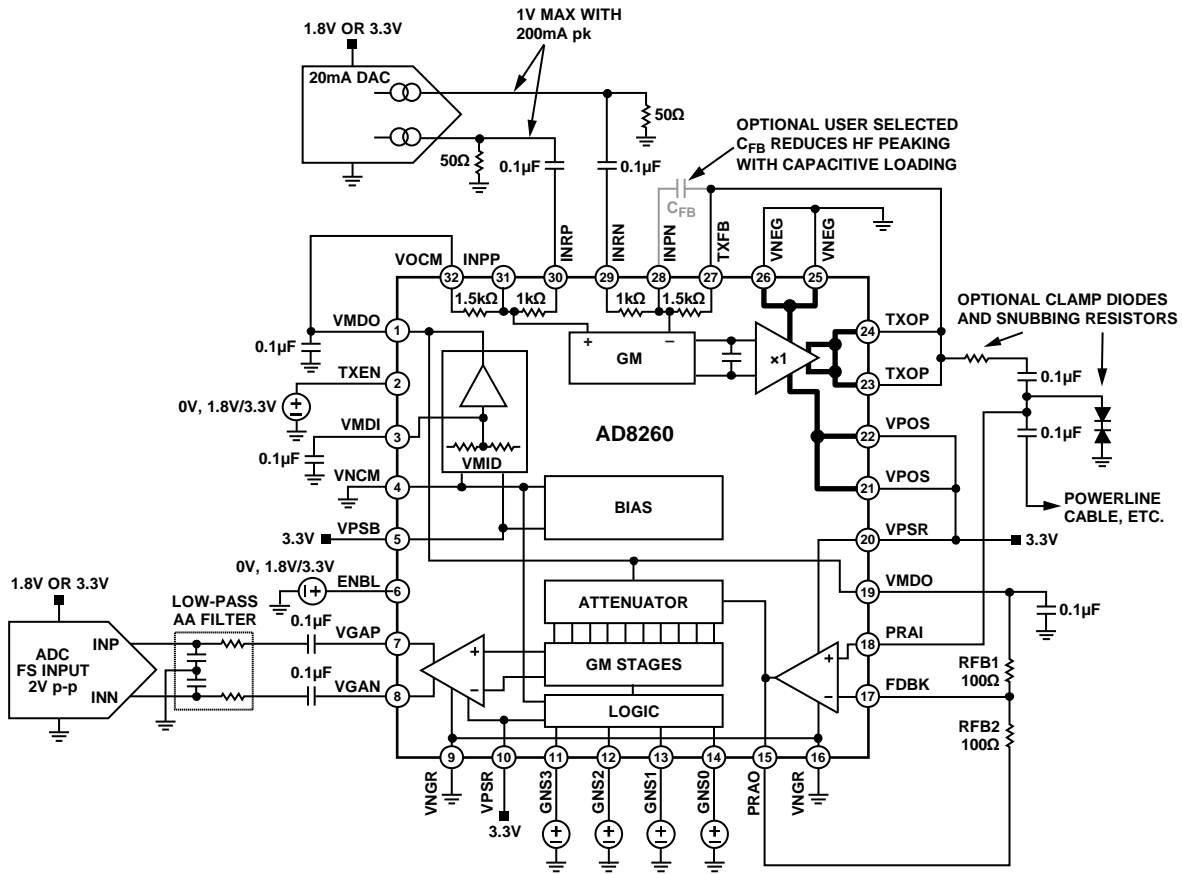

Figure 64. Block Diagram and Basic Application Connections
The AD8260 is a self-contained transceiver intended for analog communications using a power line as the media. Operating on supplies as low as 3.3 V, it includes a high current driver usable as a transmitter and a low noise digitally programmable variable gain amplifier (DGA), usable as a receiver (see Figure 64). An uncommitted current-feedback high frequency op amp acts as a preamplifier and interface to the DGA and is user configured for gains greater than 6 dB. Combined, the VGA and preamplifier are usable at high signal levels from dc to 100 MHz, with a small-signal -3 dB bandwidth of 230 MHz. To implement a high current-output VGA, the VGA output can be connected to the driver-amplifier differential input.
4-bit parallel interface. Figure 64 shows the circuit block diagram and basic application connections, and illustrates the envisioned external DAC, ADC, and power-line bus interface connections. The diagram shows the connections for single 3.3 V supply operation; if a dual supply is available, the VMID generator can be shut down and Pin VMDI, Pin VMDO, and Pin VOVM need to be grounded. Note that Pin VNOCM functions as the negative supply for the bias and VMID cells, plus the logic interfaces, and should always be tied to ground.
For optimal dynamic range, it is important that the inputs and outputs to both the driver amplifier and the preamplifier and the DGA output amplifier be ac-coupled in a single-supply application. In Figure 64, the DAC and ADC are presumed to operate on a 1.8 V or 3.3 V supply with a corresponding limited output and input swing. The DAC outputs are currents that point down and generate a voltage in the $50\ \Omega$ resistors that are connected to ground. The maximum voltage with a peak DAC output current of 15 mA is 0.75 V; if a DAC with a 20 mA peak current is used, then the maximum voltage is 1 V per side for a differential input signal of 2 V p-p.
The high current driver amplifier can deliver very large output currents suitable for driving complex impedances, such as a power line, a 50 Ω line, or a coaxial cable. The input of the amplifier is fully differential and intended to be driven by a differential current-output DAC, as shown in Figure 64. The differential input signal is amplified by $1.5\times$ and produces a 2.25 V p-p single-ended output signal from a 1.5 V p-p input signal. A DAC with 15 mA maximum output current into a 50 Ω load provides 1.5 V p-p of input voltage and results in 2.25 V p-p at the output. A DAC whose output is 20 mA produces an output swing of 3 V p-p (neglecting a small gain error when driving the parallel combination of the 50 Ω load-resistor and the internal 1 k Ω gain resistor of the AD8260).
During receive, when the high current driver-amplifier is disabled, its gain setting resistors provide a signal path from input to output. To prevent inadvertent DAC signals from being transmitted while receiving via the preamplifier and DGA, the DAC in Figure 64 must have no output signal.
The VMID buffer is a dc bias source that generates the voltage on Pin 1 and Pin 19, VMDO. Node VMDO cannot accommodate large dynamic currents and requires excellent ac decoupling to ground. A high quality 0.1μF capacitor located as close as possible to Pin 1 and Pin 19 (see Figure 64) is normally sufficient to decouple the high values of current from Node VMDO.
Referring to Figure 64, the signal path consists of a 30 dB programmable attenuator followed by a fixed gain amplifier of 18 dB for a total DGA gain range of -12 dB to $+18 \text{ dB}$. With the preamplifier configured for a gain of 6 dB, the composite gain range is -6 dB to $+24 \text{ dB}$ from single-ended preamplifier input to differential DGA output.
- Use the internal VMID buffer as shown in Figure 64.